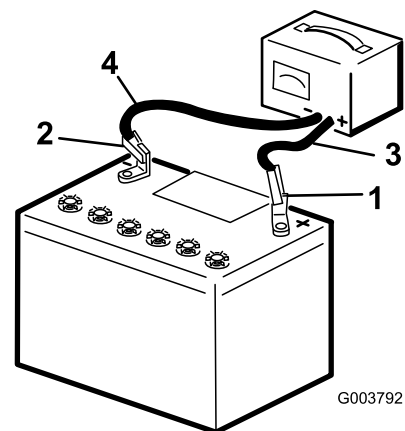

Figure 59
2. Connect the positive lead of the battery charger to the positive-battery post (Figure 59).
3. Connect the negative lead of the battery charger to the negative-battery post (Figure 59).
5. When the battery is fully charged, unplug the charger from the electrical source, then disconnect the charger leads from the battery posts (Figure 59).